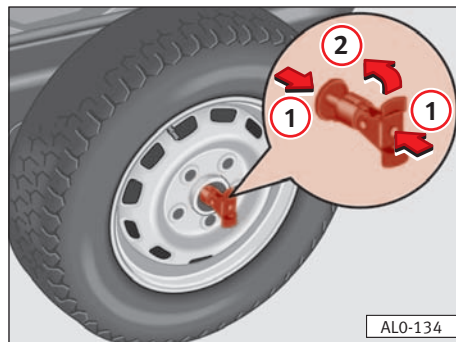

Fig. 172
- Squeeze the retainer lightly (arrows ①) and at the same time fold the cross piece in the direction shown ② ⇒ fig. 172. Now guide the retainer through the central opening in the spare wheel. ■
- Fold the cross piece in the opposite to arrow ⇒ fig. 172 ②.